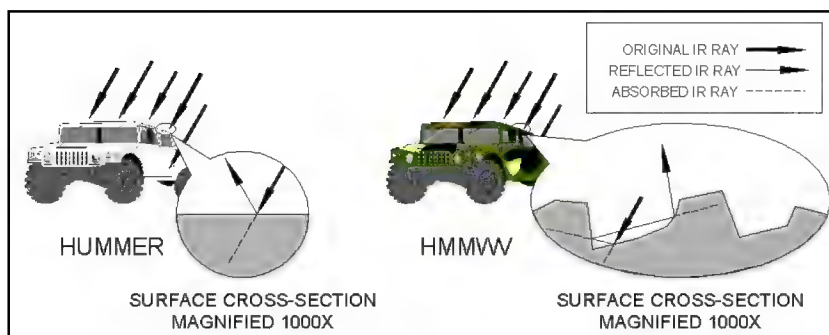

Figure E-6. Smooth versus rough surface texture.
(3) **Surface texture.** Although a military HMMWV and the civilian version (Hummer) both become hot when exposed to sunlight, the Hummer does not heat up as fast as the HMMWV does. The reason for this is the difference in the surface texture, or finish, on the two vehicles. The Hummer has a smooth, waxed surface which tends to reflect well, whereas the HMMWV has a rough surface due to the chemical-agent resistant coating (CARC) paint that tends to absorb well (Figure E-6).